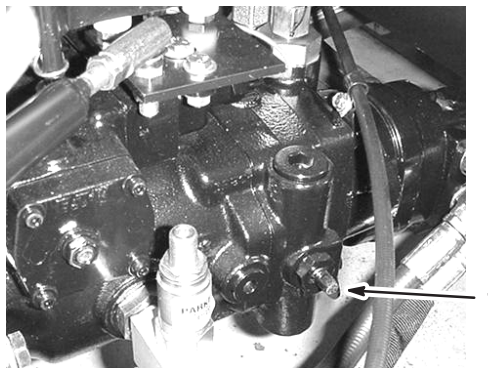

Figure 18
1. Rotate the tow valve (Fig. 18) 90° in either direction to open it.